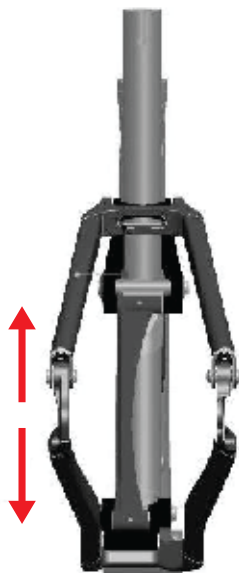

Fig.1
2. Standing behind the frame, lift the rear dropouts, (Move suspension as shown in Fig.1) it should feel smooth, (with light resistance from the carbon rear triangle on so equipped bikes). Any grinding, notchiness or tight spots may be signs that the bearings need to be overhauled.